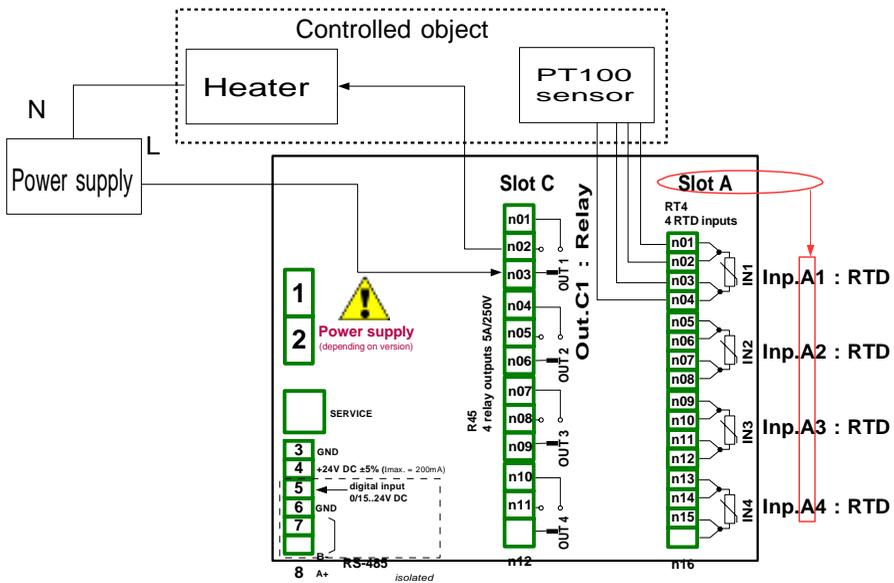

Fig. 7.97. Schematic diagram for the RTD input and Relay output modules
First configure the device as described below, then connect the object and power supply as shown in **Fig. 7.97.**
To control temperature in the object shown in Fig. 7.97, it is necessary to configure one **Logical channel** and **Relay output**.
- **Source** parameter set as **Inp.A1 : RTD** (see Fig. 7.97),
- to the heater. For this example it is the output named **Out.C1 : Relay** (see **Fig. 7.97**),